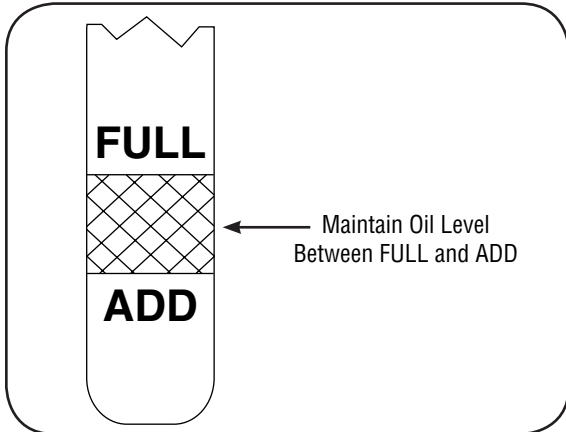

Figure 8
3. With engine on level ground, oil must be to FULL mark on dipstick. See Figure 8. If oil level is low, add oil.